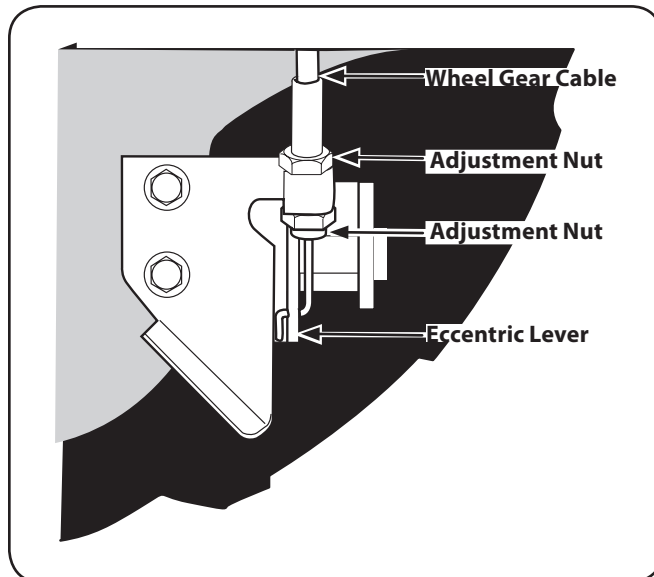

Figure 6-3
2. Loosen the top adjustment nut on the wheel gear cable bracket that is located on the left side rear of the transmission. See Fig. 6-3.